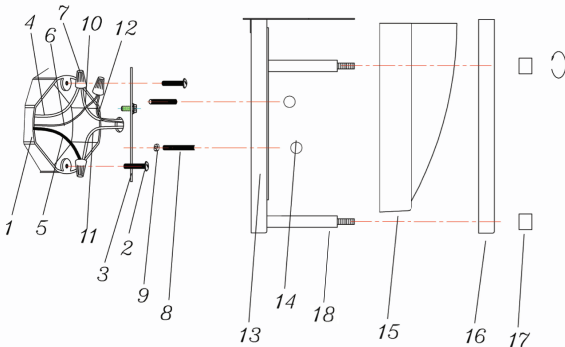

Figure 1
- 4 Attach the MOUNTING BRACKET(3) to the OUTLET BOX(1). Use the slotted holes on the MOUNTING BRACKET(3), and the included MOUNTING SCREWS(2).
- 5 Thread the FIXTURE SCREWS(8) through the threaded holes of the MOUNTING BRACKET(3). Make sure to allow both FIXTURE SCREWS(8) to protrude through MOUNTING BRACKET(3) holes.
- 6 Make the following wire connections (Fig.1), using the provided WIRE NUTS(7):